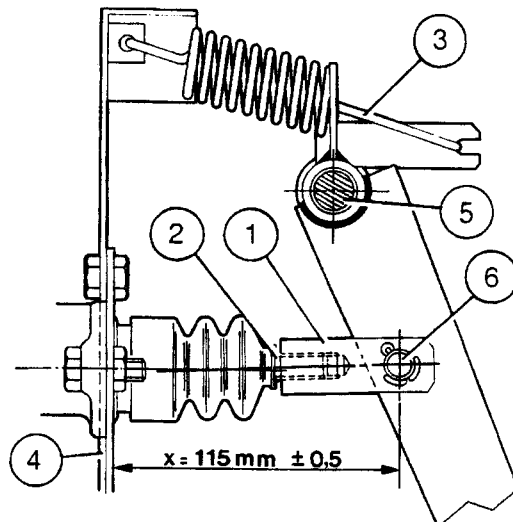

Fig. 7
1. Coat the pins (5) and (6) with molybdenum bisulphide (Fig. 7).
2. Apply Loctite 542 on the threads on clevis (1) and screw it onto the rod (2).
3. Fit the return spring (3).
4. Adjust the clevis (1) in order to obtain a distance  $X$  of  $115 \text{ mm} \pm 0.5$  between the support (4) and the clevis attaching pin.